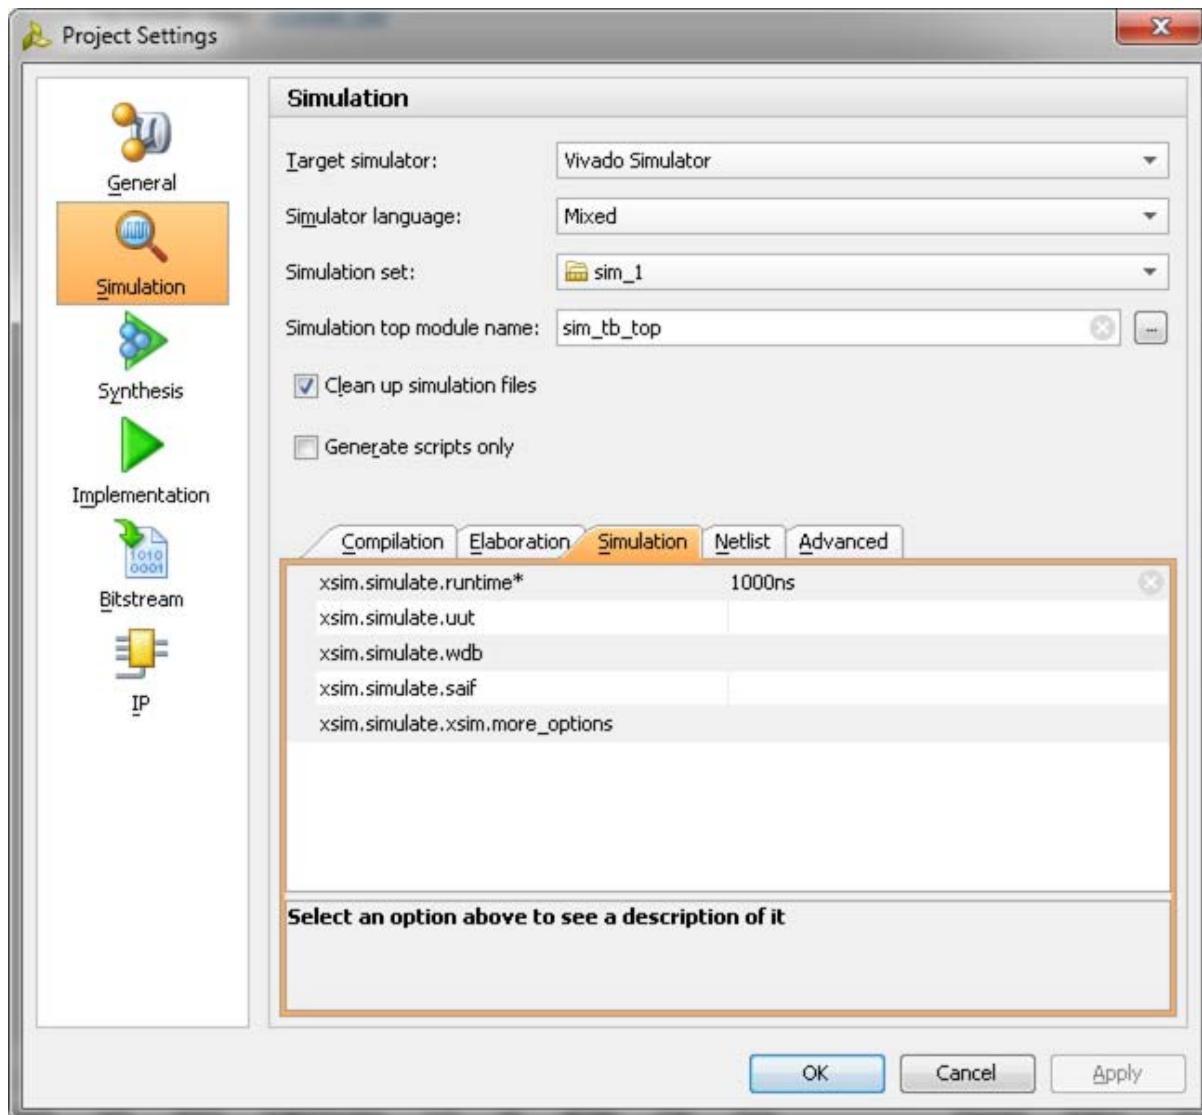

Figure 2-50: Simulation with Vivado Simulator
1. In the **Open IP Example Design** Vivado project, under **Flow Navigator**, select **Simulation Settings** (Figure 2-50).
- Under the **Simulation** tab as shown in Figure 2-50, set the xsim.simulate.runtime as 1 ms (there are simulation RTL directives which stop the simulation after certain period of time, which is less than 1 ms). Apply the settings and select **OK**.
- b. Under the **Simulation** tab, set the `modelsim.simulate.runtime` to 1 ms (there are simulation RTL directives which stop the simulation after certain period of time, which is less than 1 ms), set `modelsim.simulate.vsim.more_options` to `-novopt` as shown in Figure 2-50.